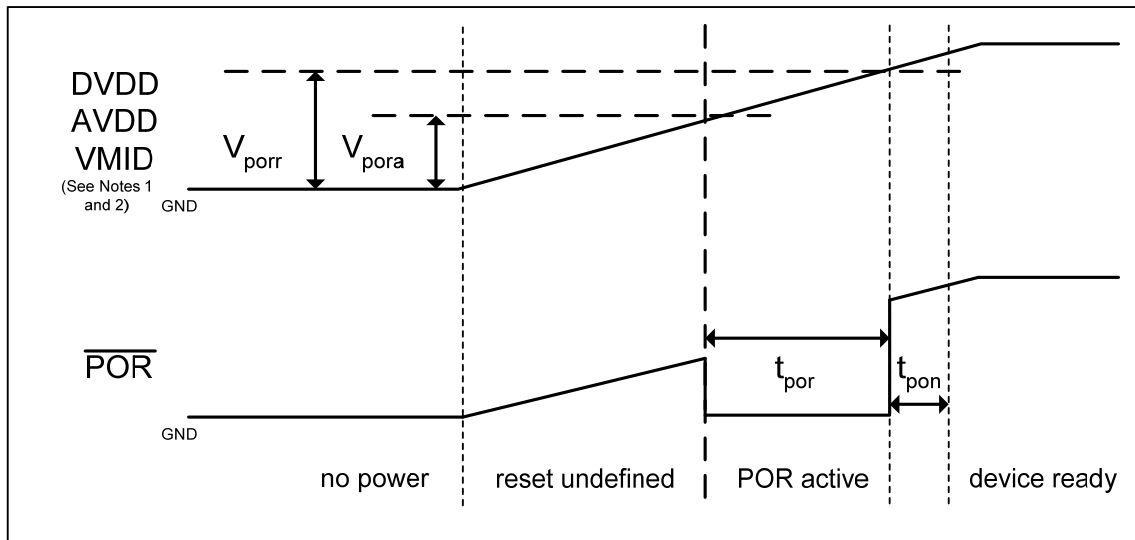

Figure 11 Power Supply Timing Requirements – Power-on
- POR is activated when DVDD or AVDD or VMID reach their stated Vpora level (Figure 11)
- POR is only released when DVDD and AVDD and VMID have all reached their stated Vporr levels (Figure 11).